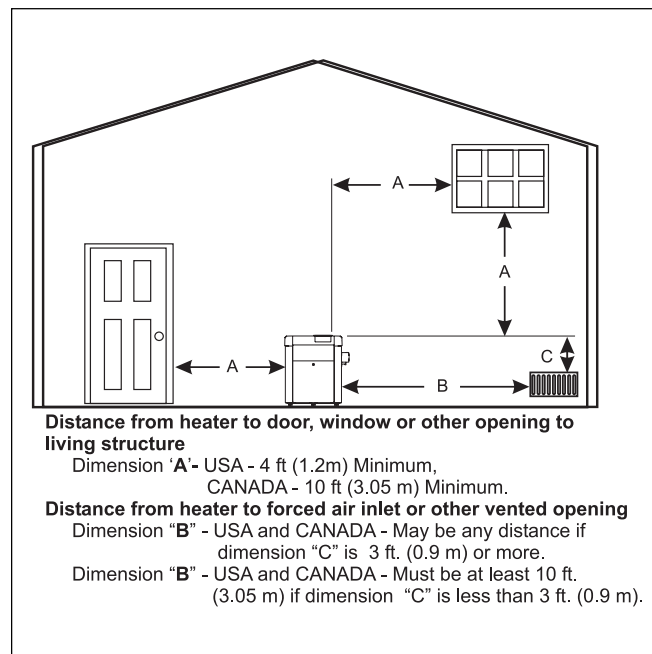

Figure 3. Outdoor Heater Installation
might be through another structure (e.g., a garage or utility room). In the United States there must be a minimum of four (4) feet (1.22 m) horizontally **and** four (4) feet (1.22 m) vertically between the heater exhaust point and any door, glass opening, or gravity inlet to a building. In Canada, the heater must be installed so that the exhaust point of the heater is at least ten (10) feet (3.0 m) from any building opening (see Figure 3).